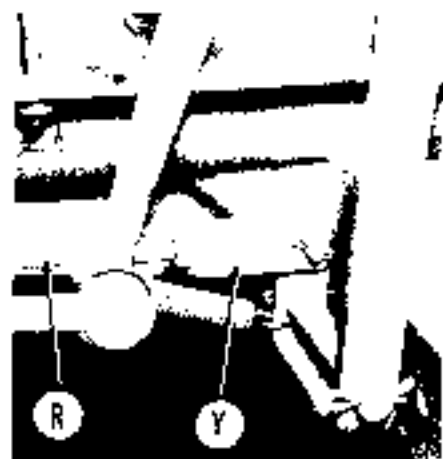

Fig. M16—Pony clutch pedal adjustment. Turn yoke Y, on rod R, until pedal has one inch free travel.
41. **ADJUST.** To adjust the clutch pedal, refer to Fig. M16 and on the view A view on opposite clutch pedal side. Turn yoke of adjustment one inch.